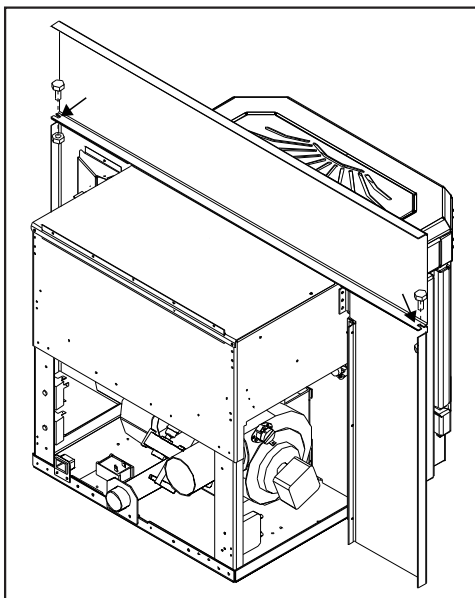

Figure 38: Assembling the Surround Panel, back view.
6. Insert each side panel anchor bolt through the top panel into the corresponding side panel holes and tighten using a  $\frac{7}{16}$ " wench or socket (refer to Figure 38).